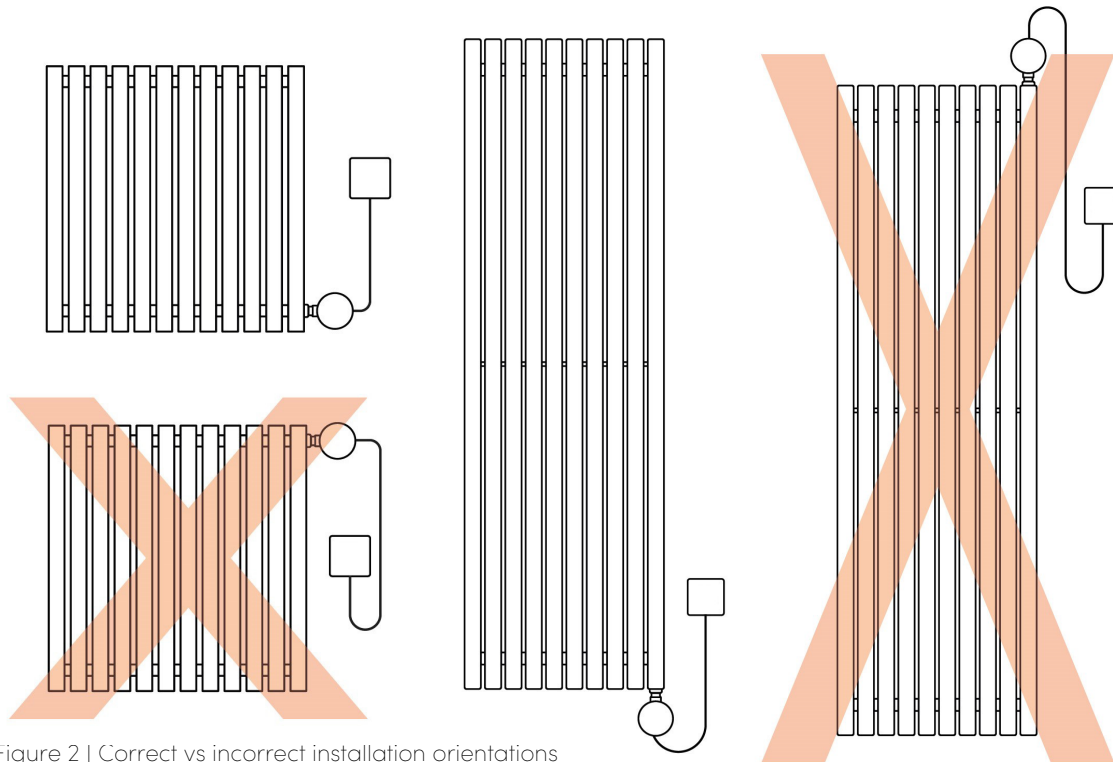

Figure 2 | Correct vs incorrect installation orientations
3. Identify the inlet where the element will be fitted in the radiator or towel rail. For vertical models, the element is fitted vertically, entering at the bottom of the right-hand vertical strut. For horizontal models, the element is fitted horizontally, entering sideways through the lowest horizontal strut. Never fit the element at the top of a radiator or towel rail (see **Figure 2**).